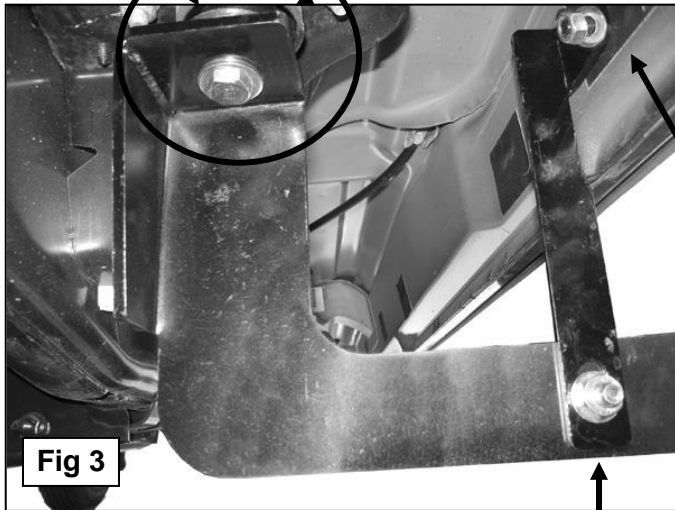

Fig 3
- Select the driver side front Mounting Bracket. Insert (1) 12-1.75mm x 120mm Hex Bolt with (1) 12mm ID x 32mm OD x 3mm Flat Washer and (1) 12mm Lock Washer through the Mounting Bracket. Place (1) Spacer Plate onto the 12mm Hex Bolt then slide the rubber bushing onto the Hex Bolt. Make sure that the Spacer Plate is between the Mounting Bracket and the factory rubber bushing, **(Figure 3)**. Hold the front Mounting Bracket, (with hardware, factory washer and rubber bushing), up in position and hang it from the body mount by threading the hex bolt into the body mount. Snug but do not tighten hardware at this time. **IMPORTANT:** On 05 and newer model years, the large washer on the factory body mount bolt is removable, (do not discard-must reinstall), and the bolt is long enough to go through the Mounting Bracket and properly thread into the body mount. It is the installer's responsibility to check length and to determine whether to use the factory or replacement hex bolt.
- Remove the tape covering the factory hole in the back side of the rocker panel near the Mounting Bracket. Thread (1) Plastic Retainer part way onto (1) 10mm x 35mm Bolt Plate.
6. Locate the driver side front Support Bracket (long) and attach it to the Bolt Plate with (1) 10mm Lock Washer, (1) 10mm Flat Washer and (1) 10mm Hex Nut, **(Figure 3)**. **NOTE:** Place Support Bracket against the front facing side of the Mounting Bracket with the bent tab facing towards the **front** of the vehicle. Snug but do not tighten hardware at this time.
7. Attach the lower end of the front Support Bracket to the Mounting Bracket using (1) 10mm x 30mm Hex Head Bolt, (1) 10mm Lock Washer, (2) 10mm Flat Washers and (1) 10mm Hex Nut, **(Figure 3)**. Do not tighten hardware at this time.